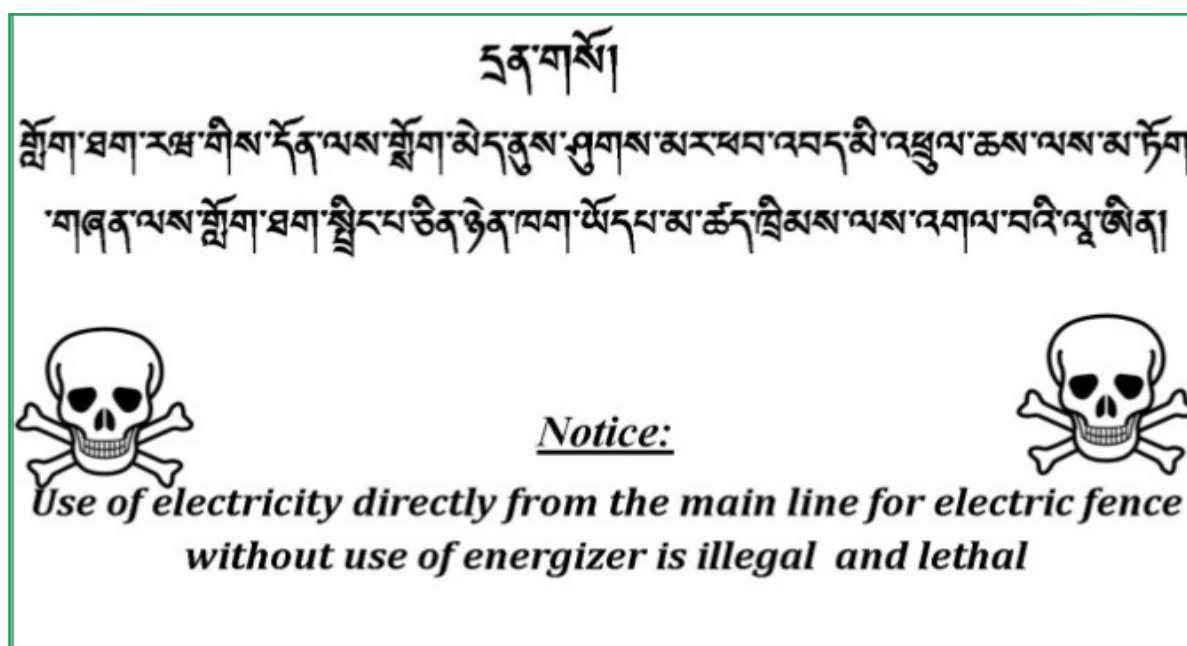

Figure 4. Warning signboard
- *Put another sign board (Figure 4) near the house where energizer is installed to remind the users and other farmers to be aware and avoid using direct current for electric fencing.*